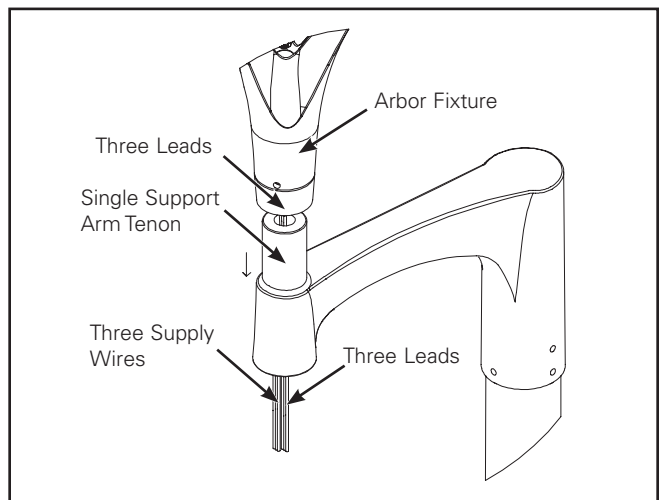

Figure 7.
9. Pull three leads from luminaire and insert into the arm tenon and through the cap hole. (Figure 7)